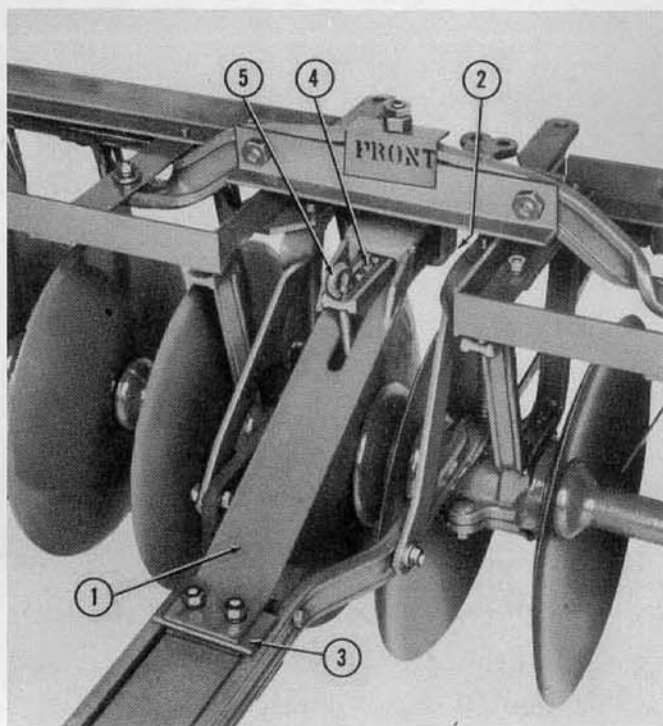

Figure 7
11. Slide rear end of trailer adjusting assembly (1), Figure 7, through bracket (2) and bolt front end to middle draft bar (3) as shown in Figure 7.
12. Insert trailer adjusting bar (4) through trailer adjusting assembly and secure with eye bolt (5). See Figure 7.